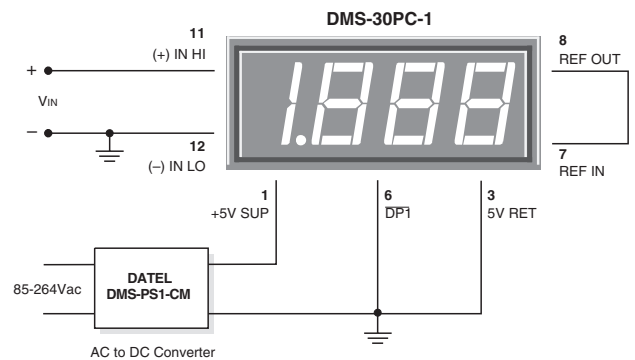

Figure 2. Single-Ended Input Configuration
- 1. Single-Ended Input Configurations:** True single-ended measurements can be made with any DMS-30PC meter. The circuit of Figure 2 avoids problems normally associated with ground-loop currents. Separate ground runs should be used for 5V RETURN (pin 3) and (-) INPUT LO (pin 12). This will ensure that large LED currents will not flow in the wiring that connects V_{IN} to (-) INPUT LO (pin 12). Ground-loop currents can cause unstable readings.